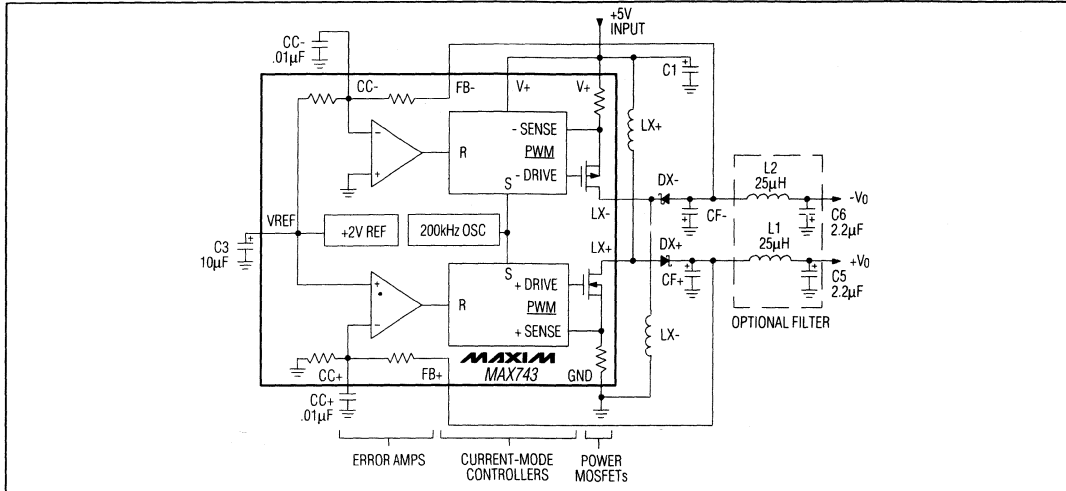
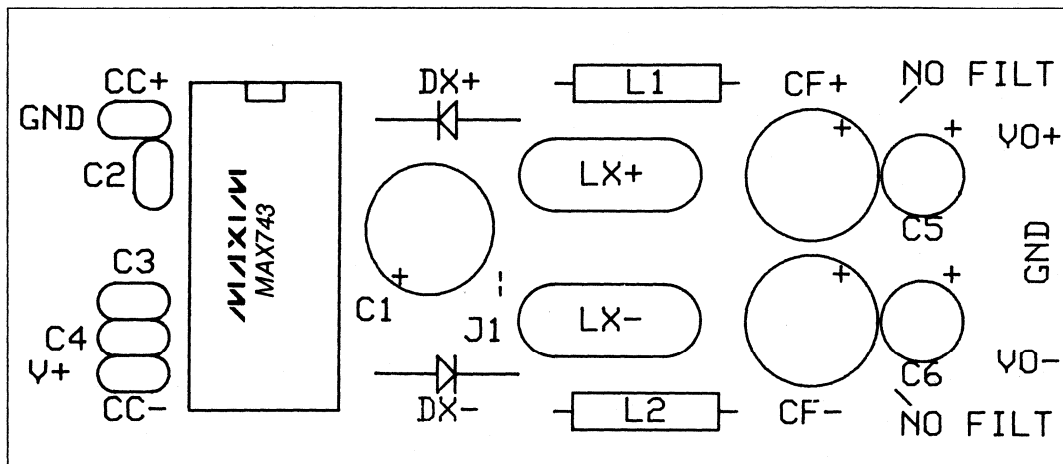

Figure 4. Functional Diagram with Optional Pi Filter
Figure 7. Component Placement Diagram for PC Layout of Figure 6
The MAX743EVKIT Evaluation Kit demonstrates the output capabilities and noise performance of the MAX743 standard application circuit (Figure 1). The kit includes main switching components identical to those found in the high-volume production kit described on page 11 (MAX743CPEKIT). With a few quick modifications, the circuit can also serve as a low-noise test bed to evaluate other components, such as the miniature MPP toroid inductor of Figure 5. The kit includes optional Pi filters shown in the Functional Diagram (Figure 4), which reduce output noise to less than 2mVp-p.
1. Build Circuit. Assemble the PC board according to the component placement diagram of Figure 7 and the schematic of Figure 4. 3 resistors will be left over (and used for testing). The extra holes near LX and CF are options for nonstandard component sizes. Do not install jumper, J1, or C4.